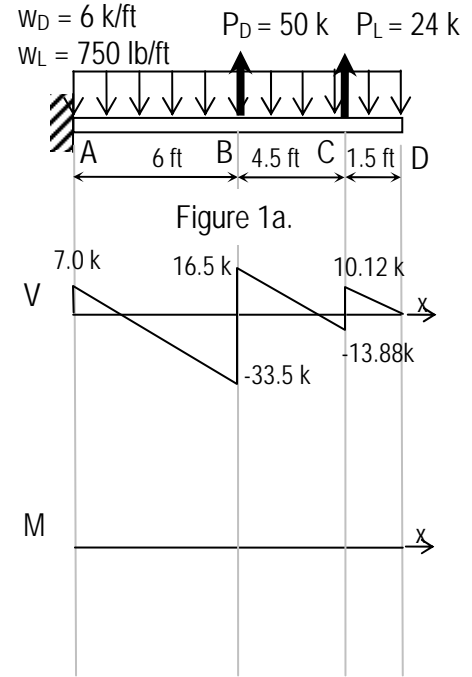

Figure 1b.
- The completed bending moment diagram in Figure 1b, and M_{max} .